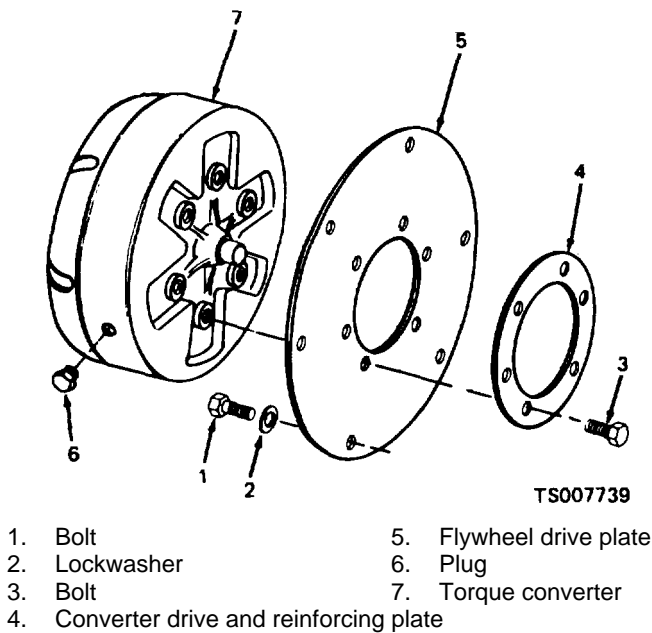

Figure 2-4. Torque Converter and Drive Plates, Exploded View.
- (5) Remove six bolts (1, fig. 2-4) and lockwashers (2) that secure flywheel drive plate (5) to flywheel; remove plate and torque converter (7).
(1) Position converter drive and reinforcing plate (4, fig. 2-4) and flywheel drive plate (5) on the torque converter (7); secure with six bolts (3).
(2) Position the assembled torque converter and flywheel drive on the engine flywheel; secure with six bolts (1) and lockwashers (2).